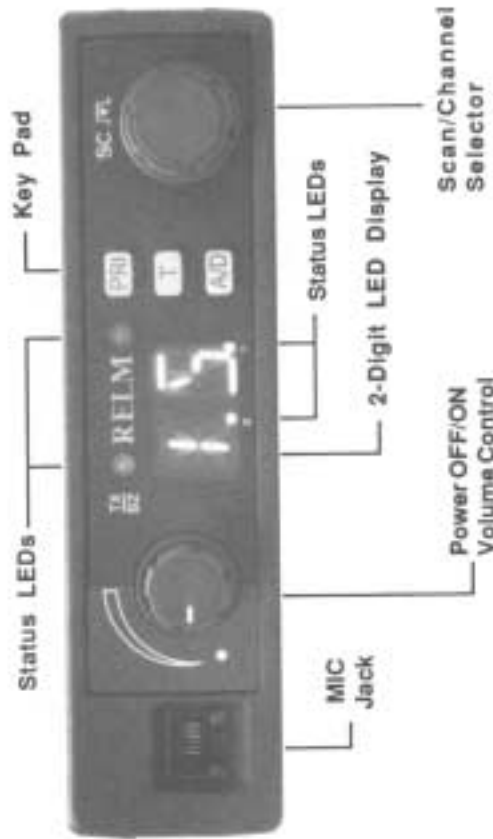

Figure 2. Front View.
1. Install the microphone cable in the connector located at the left side of the Unit's front panel. See Figure 2 on page 4. There will be a click when the cable's modular plug is fully seated.